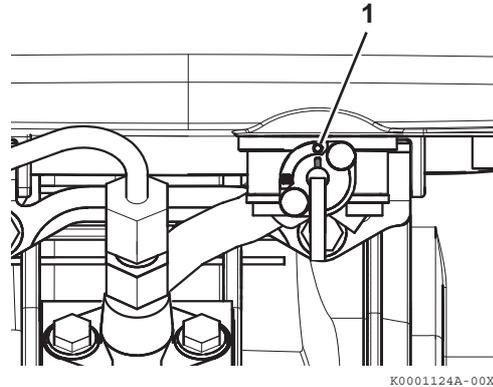

Figure 10
2. Make sure the fuel cock is in the ON position (**Figure 10, (1)**).